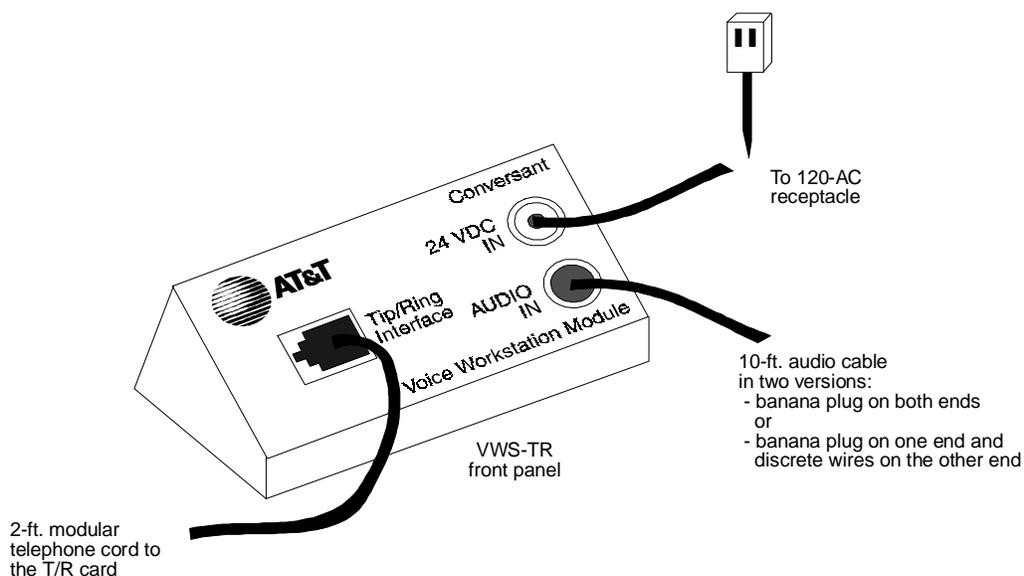

Figure 10-15. Voice Workstation System, Tip/Ring Interface Module
- Audio Jack Kit (see Figure 10-15); this includes:
3. Plug the other end of the audio cable into the AUDIO IN connector of the VWS-TR interface module (Figure 10-15).